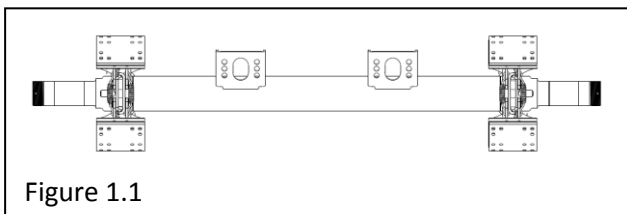

Figure 1.1
- Straight beam - TA model (Figure 1.1)